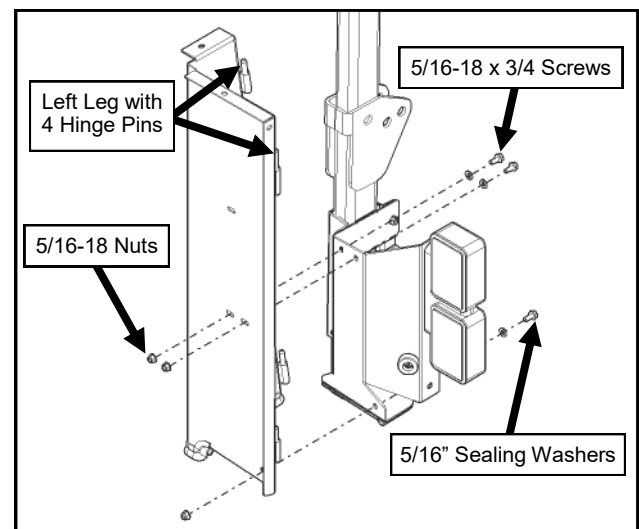

Fig. 3.1 (Loosely Secure Left Rear Leg)
- 3.1** With a helper, set the left rear leg in place on the rear fender against the ROPS bracket. See figure 3.1. Loosely secure to the ROPS bracket with sealing washers on all the screws.